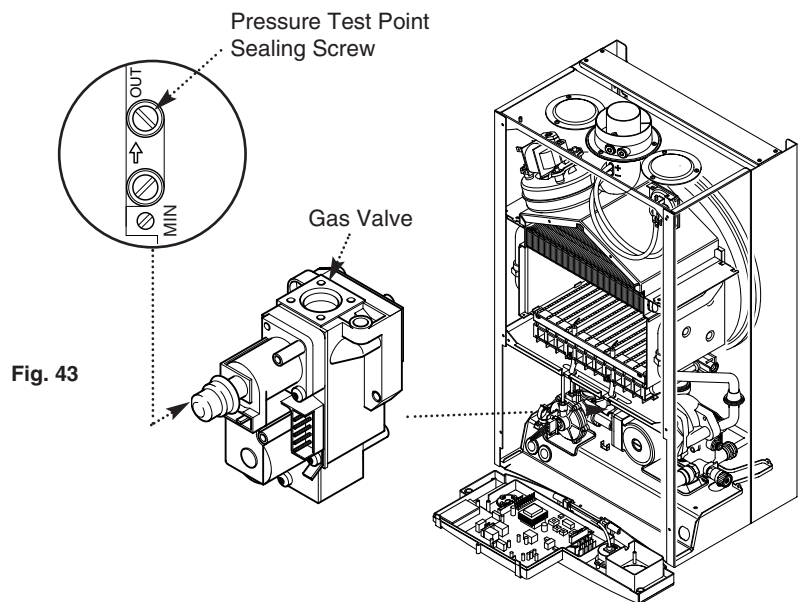

Fig. 43
3. Slacken the pressure test point sealing screw on the gas valve and connect a pressure gauge (Fig. 43).